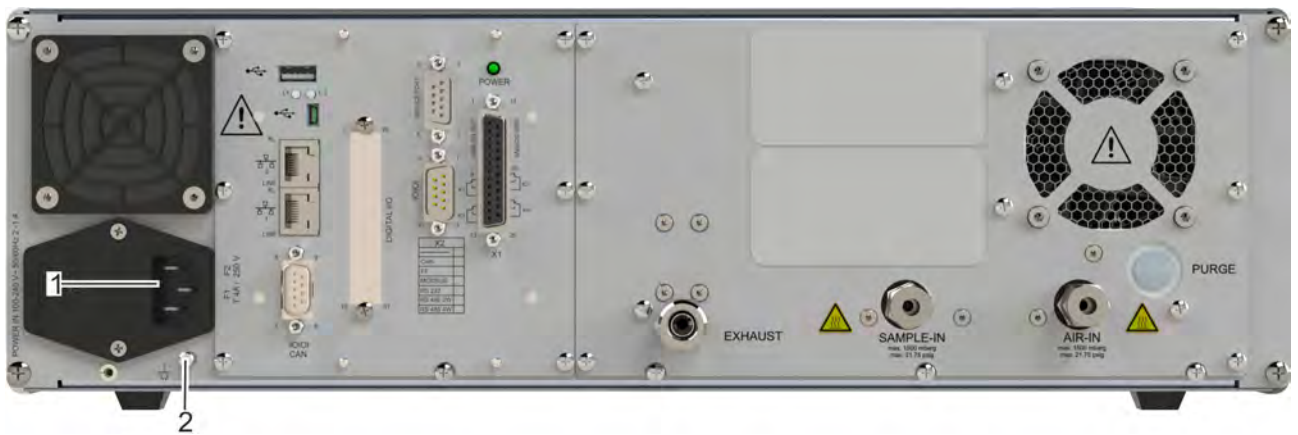

Fig. 69: Power Supply and Equipotential Bonding
1. ➤ Connect the on-site potential equalization to the equipotential bonding connector (Fig. 69/2).
3. ➤ Plug power cable into power cable connector on the left side of the rear panel (Fig. 69/1).